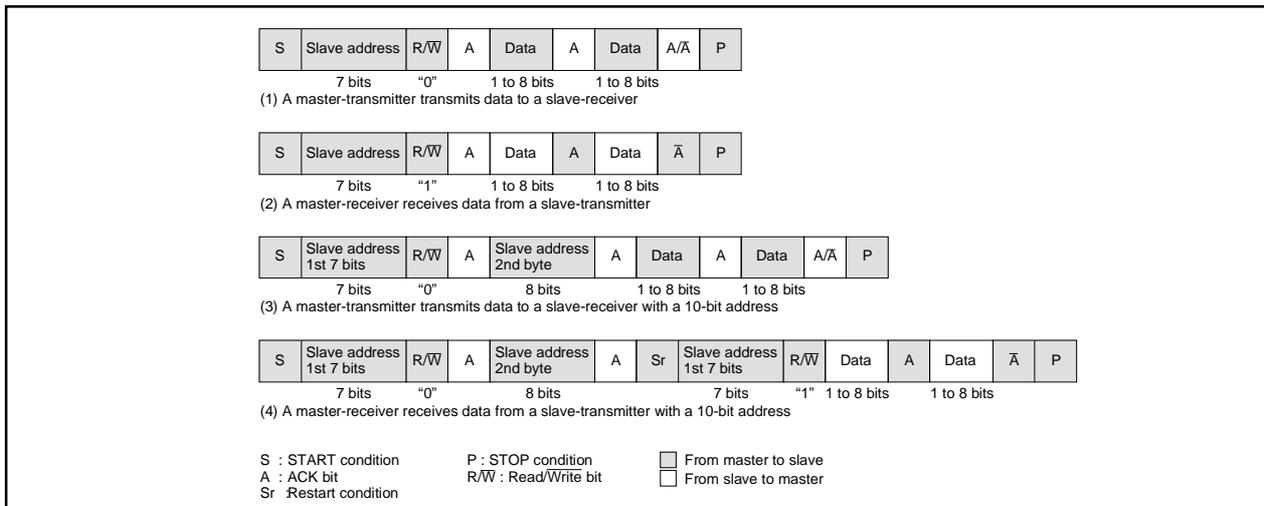

Fig. 2.11.45 Address data communication format
To meet the 7-bit addressing format, set the 10BIT SAD bit of the I²Ci control register to “0.” The first 7-bit address data transmitted from the master is compared with the high-order 7-bit slave address stored in the I²Ci address register. At the time of this comparison, address comparison of the RBW bit of the I²Ci address register is not made. For the data transmission format when the 7-bit addressing format is selected, refer to Figure 2.11.45, (1) and (2).
When the first-byte address data matches the slave address, the AAS bit of the I²Ci status register is set to “1.” After the second-byte address data is stored into the I²Ci data shift register, make an address comparison between the second-byte data and the slave address by software. When the address data of the 2nd bytes matches the slave address, set the RBW bit of the I²Ci address register to “1” by software. This processing can match the 7-bit slave address and R/ \bar{W} data, which are received after a RESTART condition is detected, with the value of the I²Ci address register. For the data transmission format when the 10-bit addressing format is selected, refer to Figure 2.11.45, (3) and (4).
(11) Example of Master Transmission